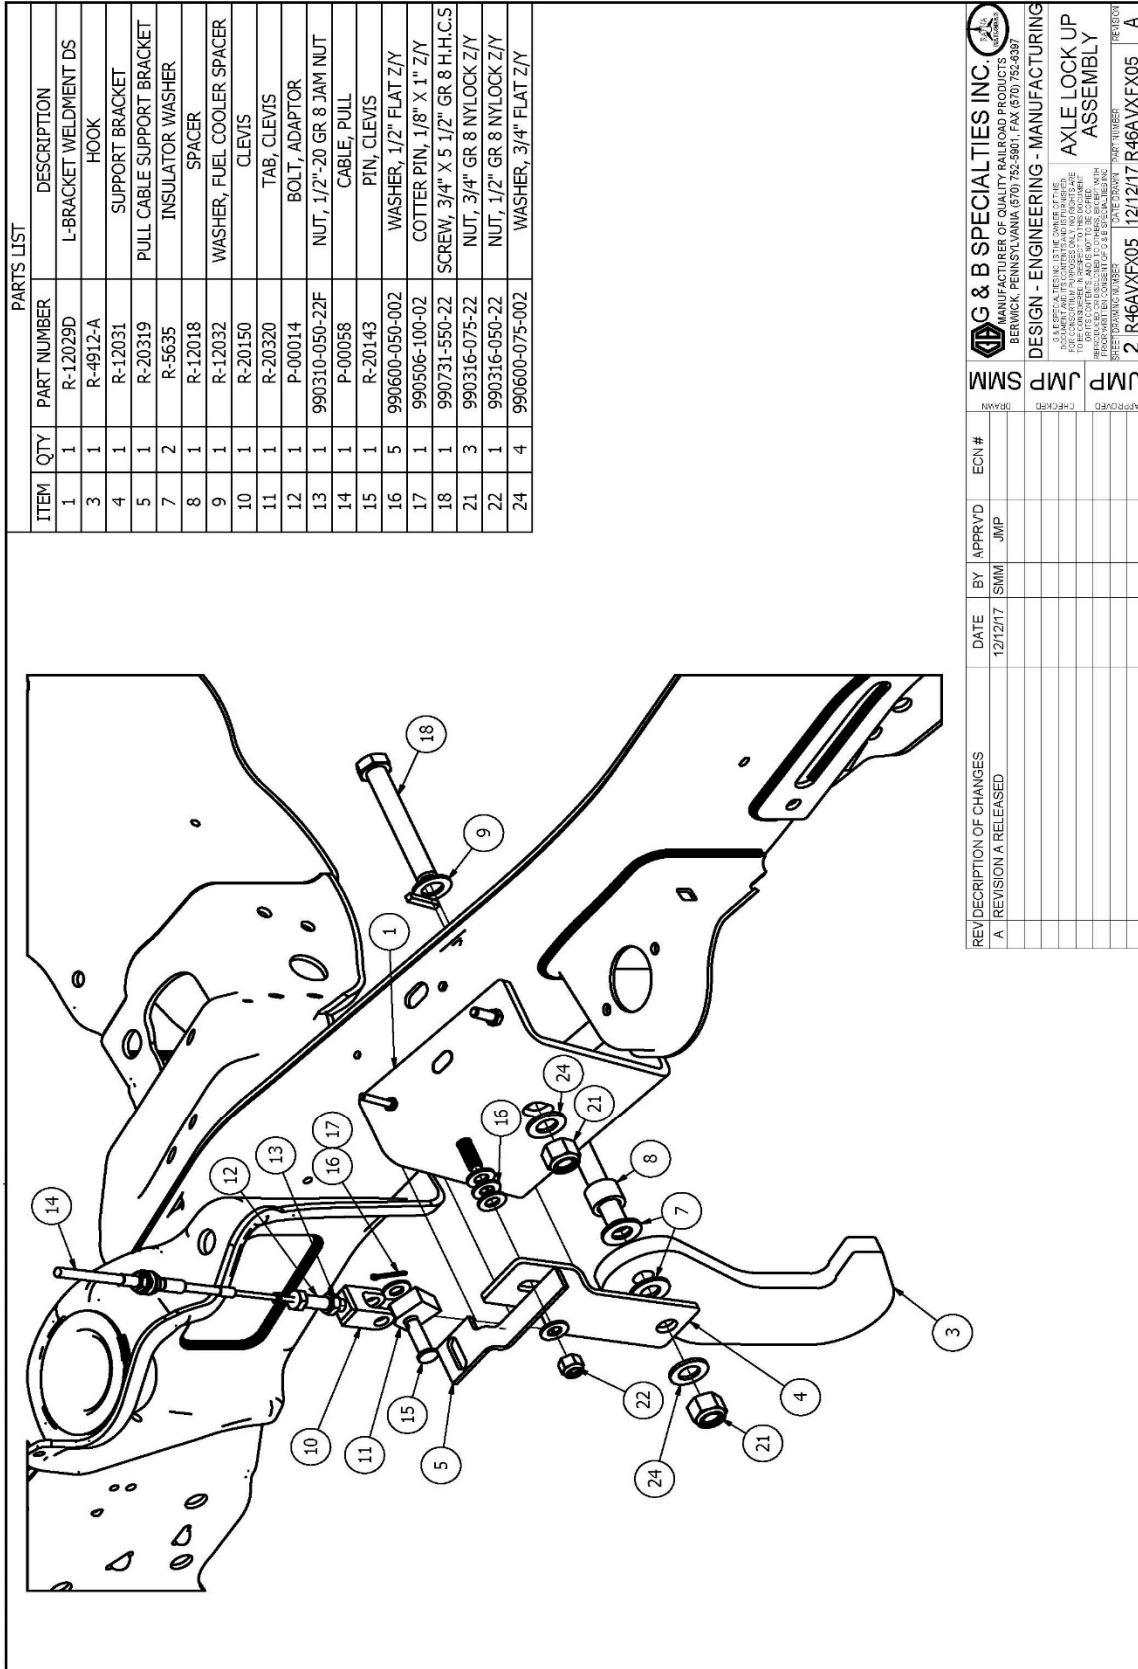

Figure 4
6. Assemble the hook, R-4912-A, and bracket, R-12031, onto the all thread stud as shown in Fig. 4. If lateral adjustment is required, the supplied spacer can be trimmed down, or washers can be added into assembly to maintain proper clearance with the frame, suspension arm, and hook. Nylock nut should be tightened enough to secure hook, but not hinder it from swinging.